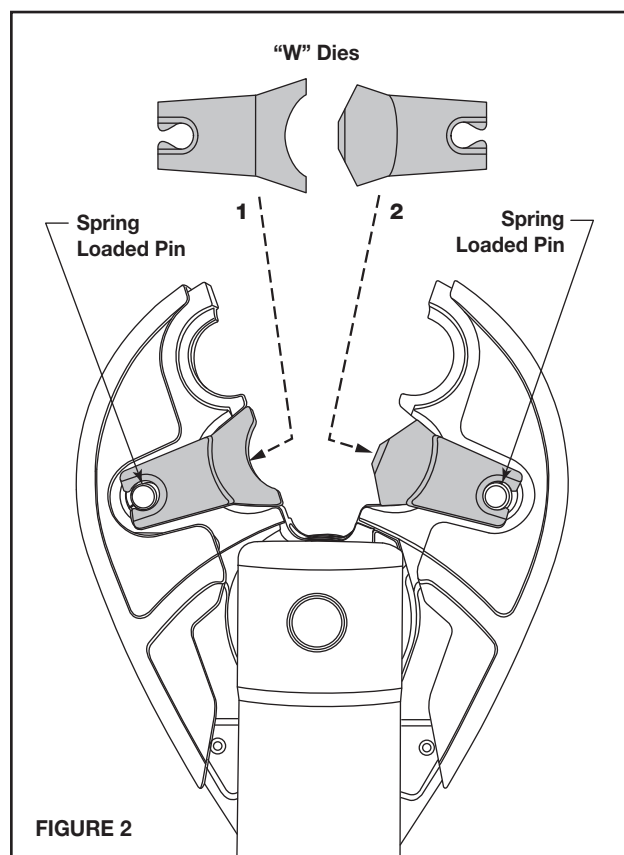

FIGURE 2
3. The tool also accepts Burndy "W" type dies. To use Burndy "W" dies, install over the D Nests and secure in place by the spring loaded pins (Figure 2).